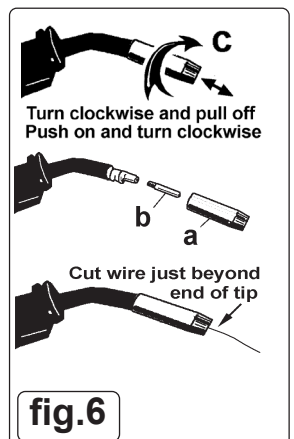

fig.6
5.1.8. Feeding the wire through to the torch. (See fig.6) Remove gas cup (a) and contact tip (b) from end of torch as follows: